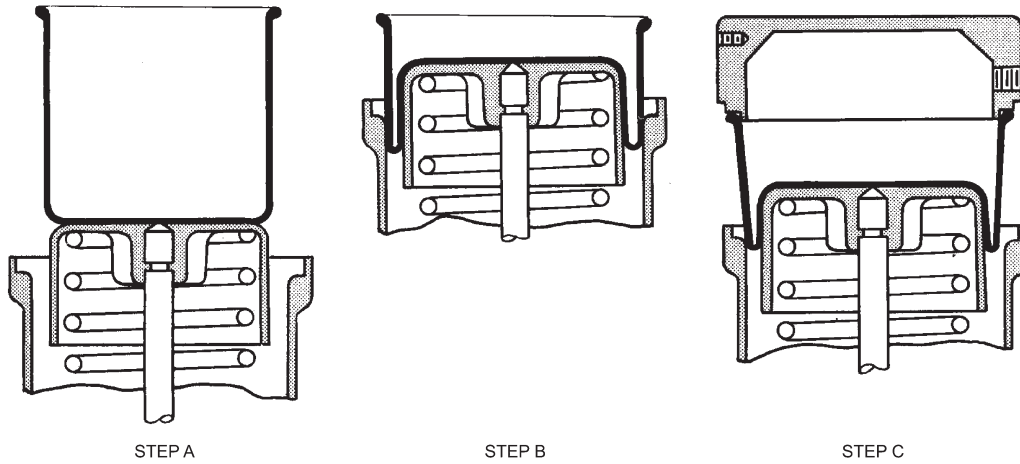

Figure 7 - Method 1
I-1. Center and adhere diaphragm (40) to the top of the piston (43) (see Figure 7-Method 1, Step A).
J-1. Roll the diaphragm (40) inside the spring barrel (38) until the diaphragm is partially engaged in the spring barrel (see Figure 7-Method 1, Step B).